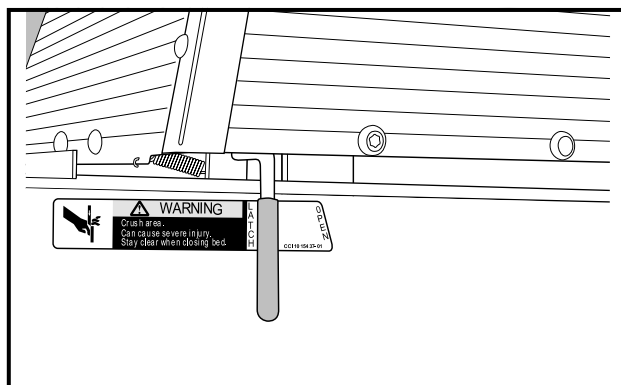
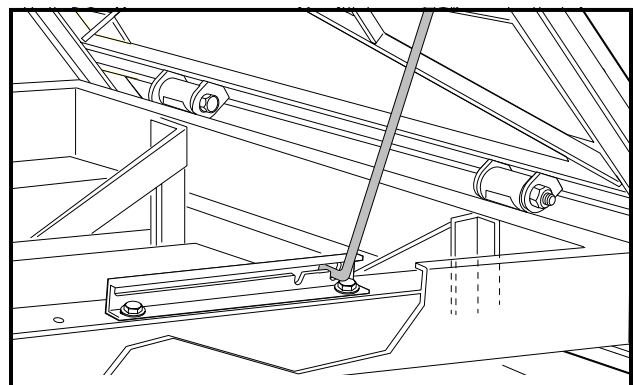

Figure 12 Bed Latch
Figure 13 Prop Rod
The vehicle is equipped with a bed latch on the driver side of the vehicle (**Figure 12, Page 19**) and an automatically engaging prop rod (**Figure 13, Page 19**). To lift the bed, pull the latch handle toward the rear of the vehicle and lift the bed. To close the bed, disengage the prop rod and gently lower the bed until the bed latch engages. **DO NOT** drop the bed.
- THE VEHICLE IS EQUIPPED WITH AN AUTOMATICALLY ENGAGING PROP ROD (**FIGURE 13, PAGE 19**), UNLESS EQUIPPED WITH THE HYDRAULIC OR ELECTRIC BED LIFT ACCESSORY.
The vehicle is equipped with an automatically engaging prop rod and prop rod track on the driver side of the rear body (**Figure 13, Page 19**). When pulling the bed latch handle and lifting the bed, the prop rod will come to rest in one of the notches in the prop rod track.